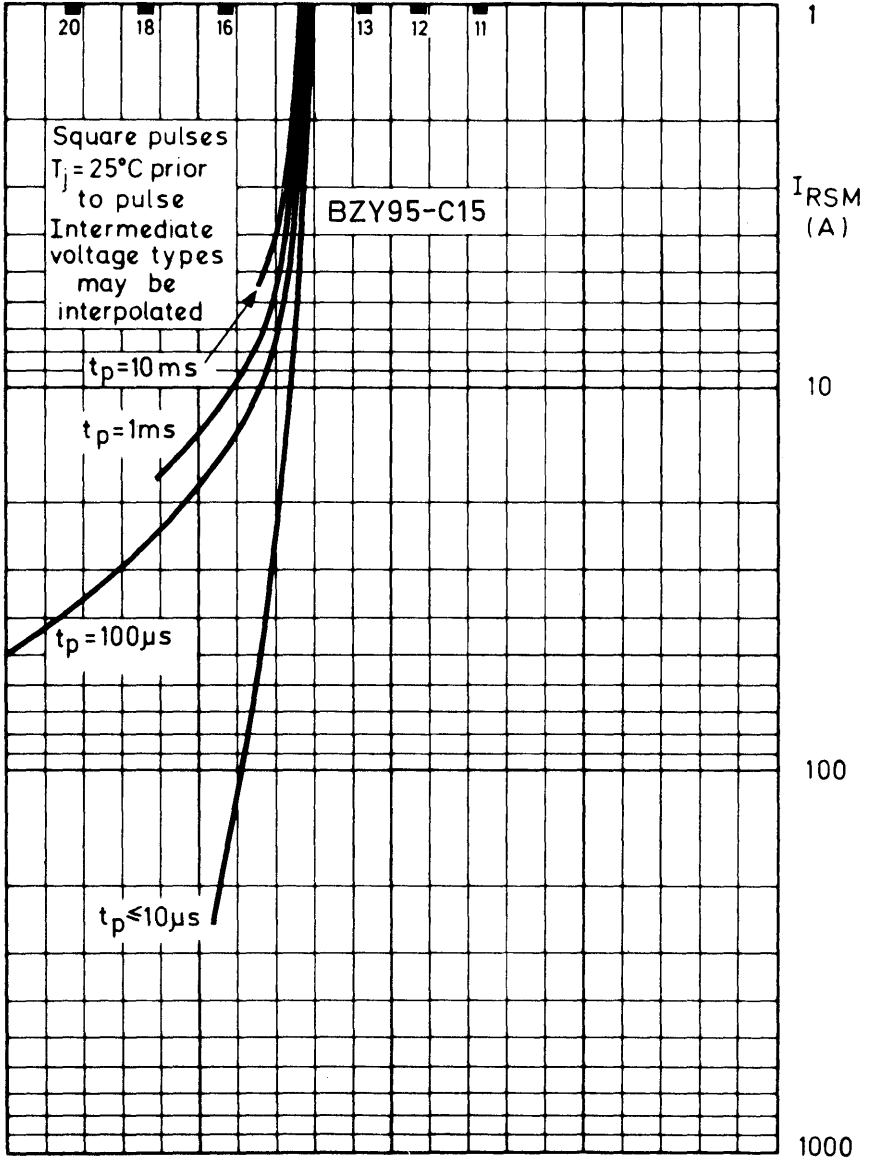
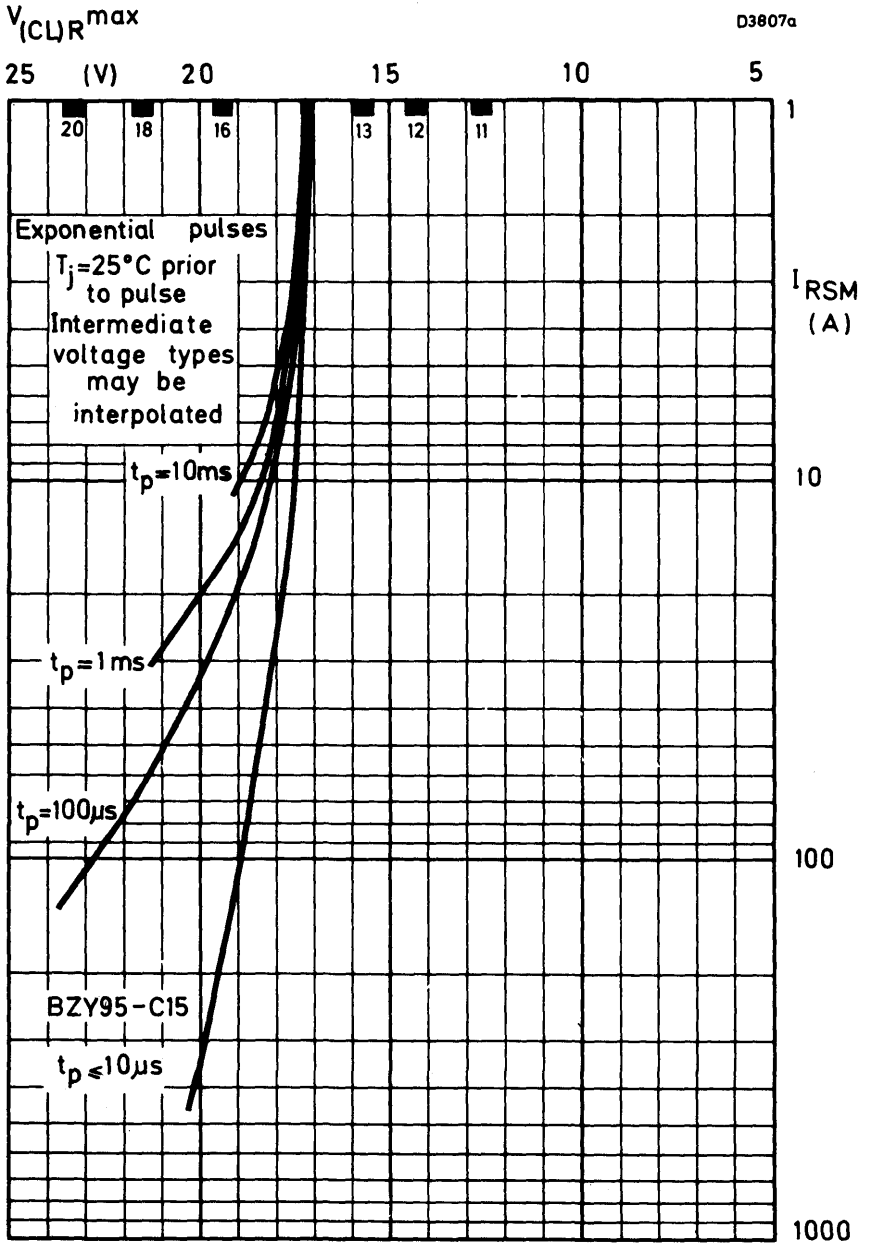

Fig. 14.
Fig. 16.
2. The maximum clamping voltage is the maximum reverse voltage which appears across the diode at the specified pulse duration and junction temperature. For square pulses see Figs 14 and 15, for exponential pulses see Figs 16 and 17.